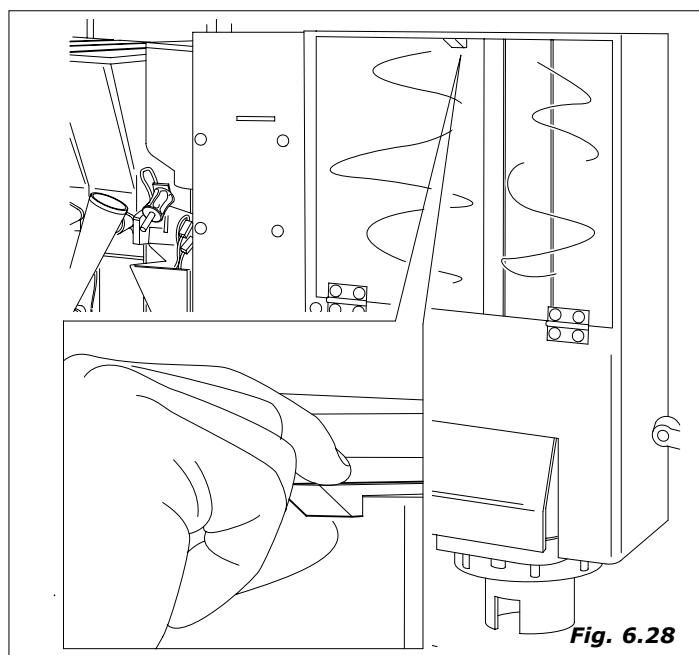

Fig. 6.28
- open the transparent flap as indicated in the figure (Fig. 6.28)